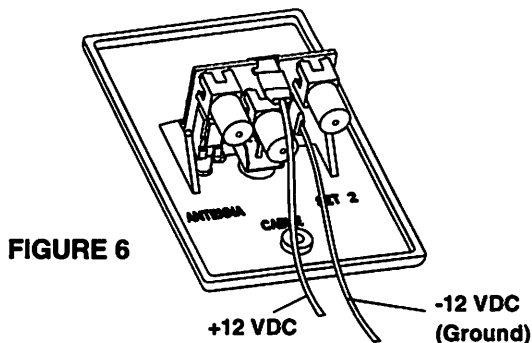
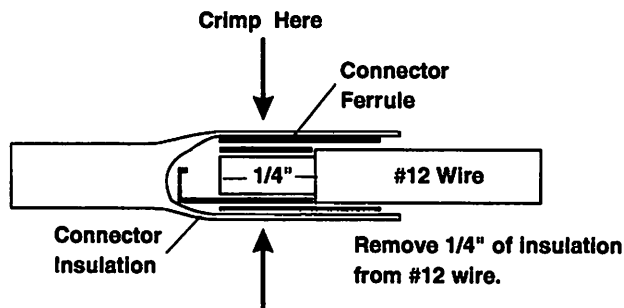
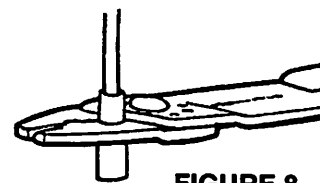
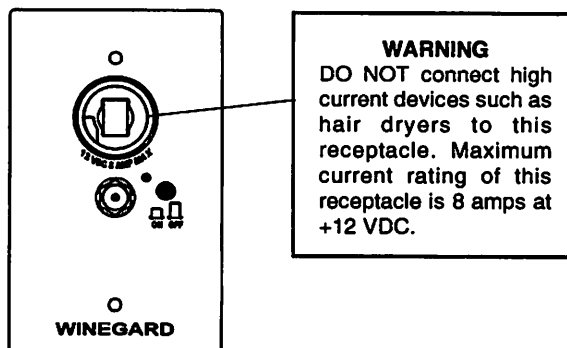

FIGURE 6
FIGURE 7
FIGURE 8
FIGURE 10
THE POWER SUPPLY SHOULD BE TURNED OFF WHEN CONNECTING CABLES/WIRES TO POWER SUPPLY. SEE FIGURE 10.
STEP 12: Make 12 volt connection to wall plate/power supply Figure 6. Install terminals on wires from +12 VDC source as shown in Figure 7. Crimp terminals with Craftsman type 4 crimping tool or equivalent. See Figure 8. Push wires onto tabs on terminal board as shown in Figure 6. If in doubt as to the polarity of the wires, connect them temporarily to tabs on circuit board and press ON switch on front of wall plate; if light comes on polarity is correct. See Figure 10.
STEP 14: Mount power supply in wall with screws provided and attach TV set cable to jack on front of power supply/wall plate. Press ON switch on front of wall plate and check that light is on. See Figure 10.